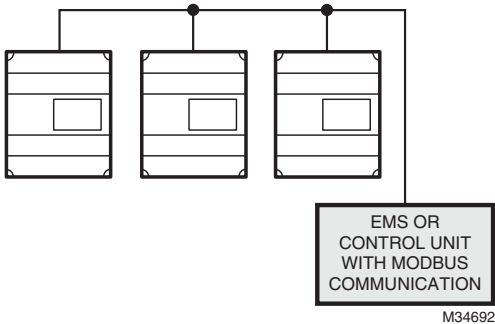

Fig. 25. Ethernet/IP Communications.
- b. Service Pin: Set the network configuration tool to detect Service Pin. Press the Service Pin switch located next to the 2 position screw terminal plug. See Figure 25.